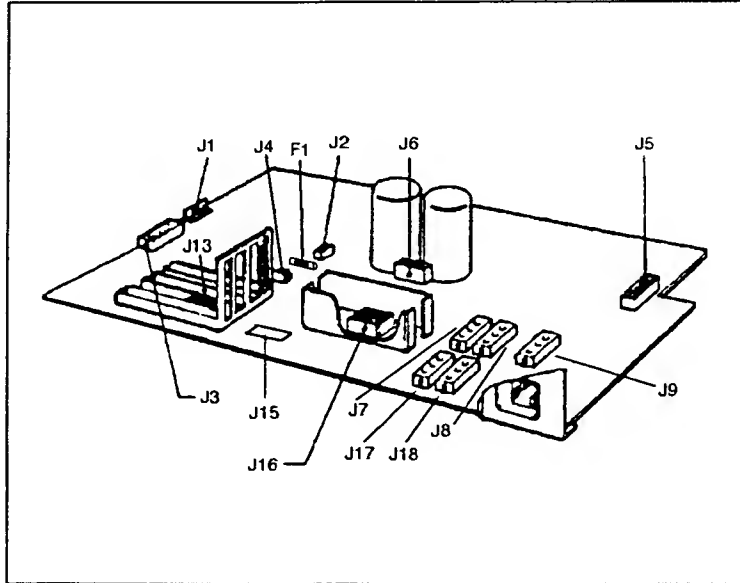

Figure 6-6. Analog PCA Cable Connectors
- c. Disconnect all (11) cables from the connectors on the PCA (see Figure 6-6).
- b. Disconnect connector J16 (Stepper Motor) on the Analog PCA (see Figure 6-6).